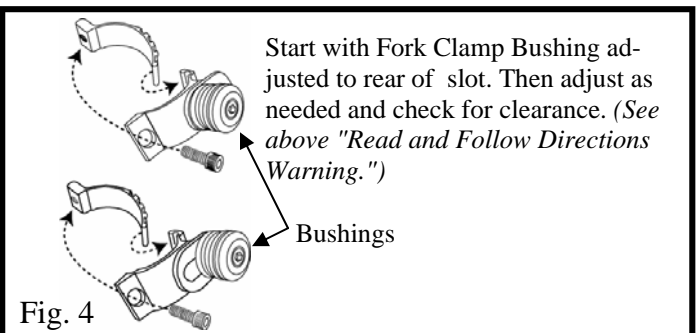

Fig. 4
4. Start with Fork Clamp Bushing adjusted to rear of slot (see figure 4) Then adjust as needed and check for clearance. (See warning above.)